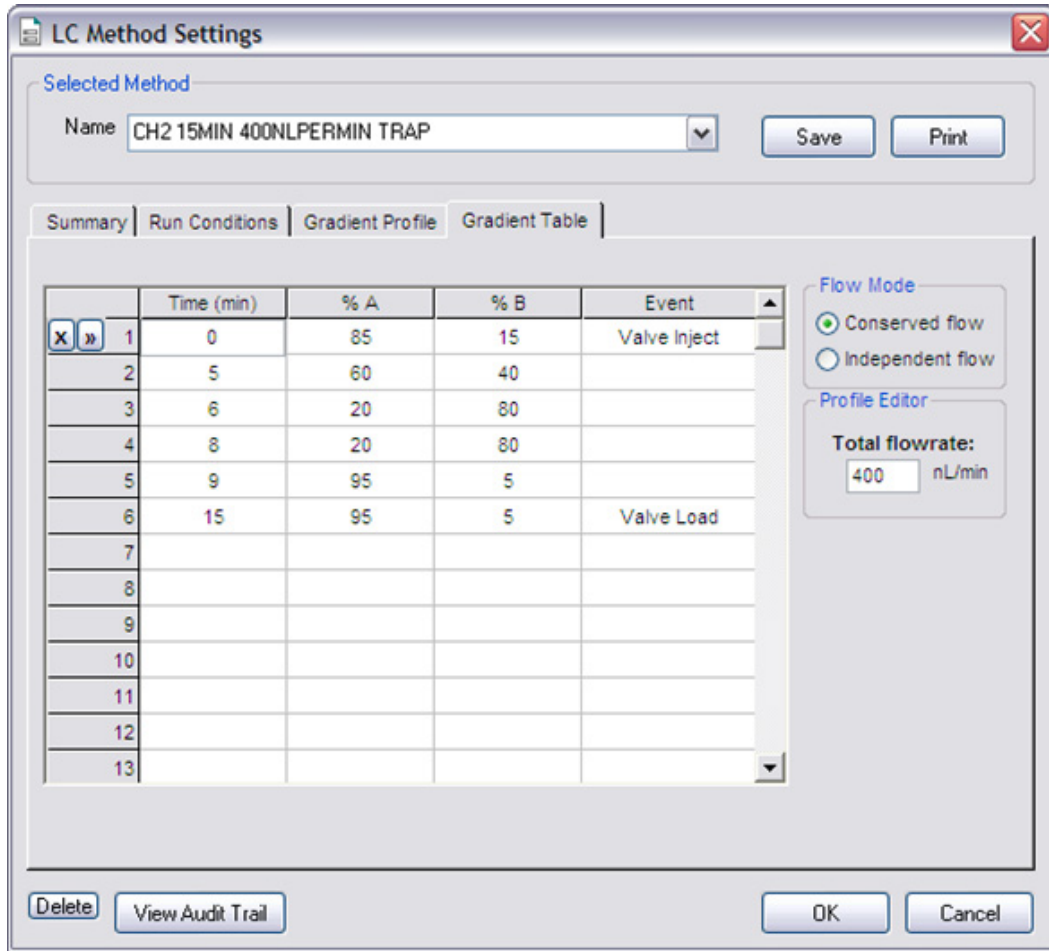

Figure 2-6 LC Method Settings dialog—Gradient Table tab (column)
4. On the **Gradient Table** tab, specify the method as shown in Figure 2-5 or Figure 2-6, depending on the installation.